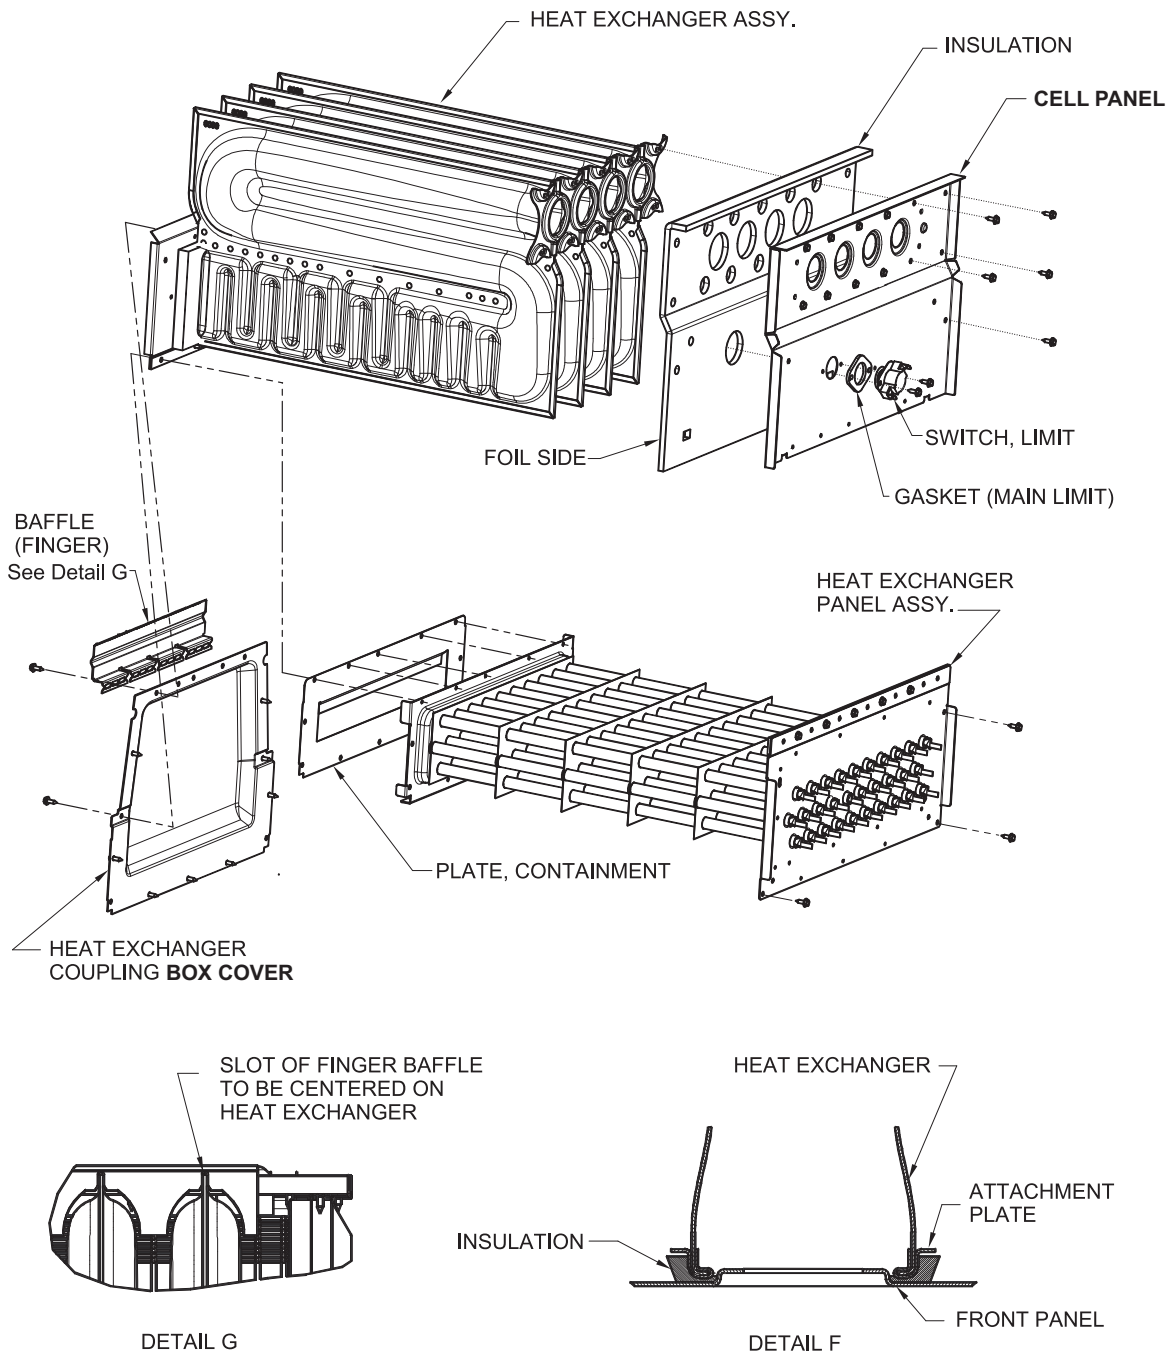

Fig. 4 - Cell panel Removal / Installation
1. Remove the screws that secure the finger baffle from the Coupling Box Cover. See Fig. 4.
2. Align the Coupling Box Cover over the rear of the Heat Exchanger Assembly. See Fig. 4 and 7.
4. Align the Finger Baffles along the top edge of the Coupling Box Cover. See Fig. 4 and 7.